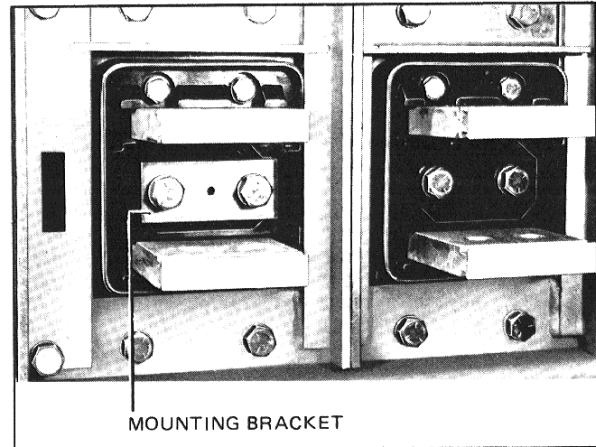

Fig. 11 Sensor Mounting Bracket DB-75/100
6. Remove the finger clusters from the three lower studs, remove the two (2) .50-13 x 1.25 bolts located directly in the middle of the studs. Place the sensor mounting bracket with the nipples facing the two holes from where the bolts were removed and secure with two (2) .50-13 x 2.5 bolts and washers. Slide the sensors onto the studs, do not force the sensors on, due to close tolerances the sensor may be inched from side to side to get them properly mounted. Once the sensor is up against the back plate secure it with the mounting bracket using the .25-20 x .50 panhead screw. The sensor must be mounted with the end marked with the letters "SH" on top. These sensors have a special shield to minimize the effect of stray flux. See Figs. 11 and 12.